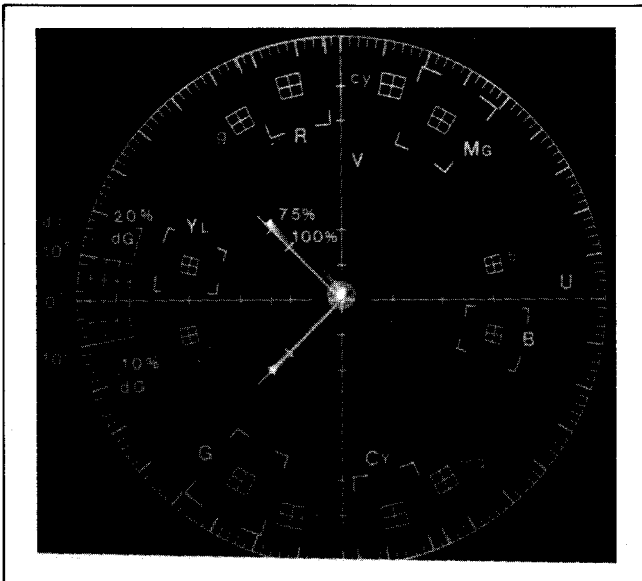

Fig. C10
6. Push [INC] or [DEC] keys until the vectors are in or close as possible to the centre, See Fig.C10.
9. \* Push [INC] or [DEC] keys until the vectors are in or as close as possible to the centre, See Fig.C10.